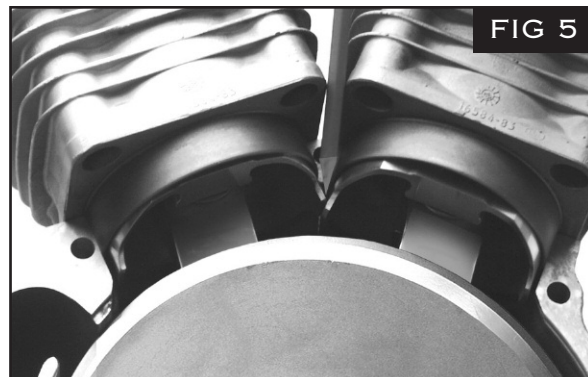

FIG 5
With the flywheel assembly mocked up in left case only, install cylinders and pistons, (no rings on the pistons as before). Make sure they are installed properly. The beveled cut away on the cylinder base points towards the center of the engine. Securely install the cylinders with (2) nuts on each cylinder. Rotate flywheel assembly slowly until pistons make contact with each other (or just start to pass by each other.) See fig 5. A minimum of  $.100$ " clearance is required for the pistons to clear each other.